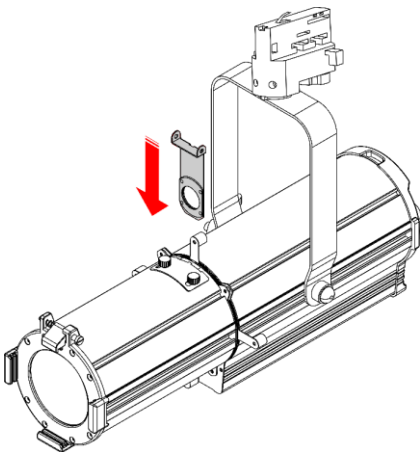

Fig. 24
- 04) Change the gobo in the **gobo holder (13)**. See 5.3.1. **Changing the Gobo** on page 19 for more information.
- 05) Insert the **gobo holder (13)** back into the gobo slot (see Fig. 24).